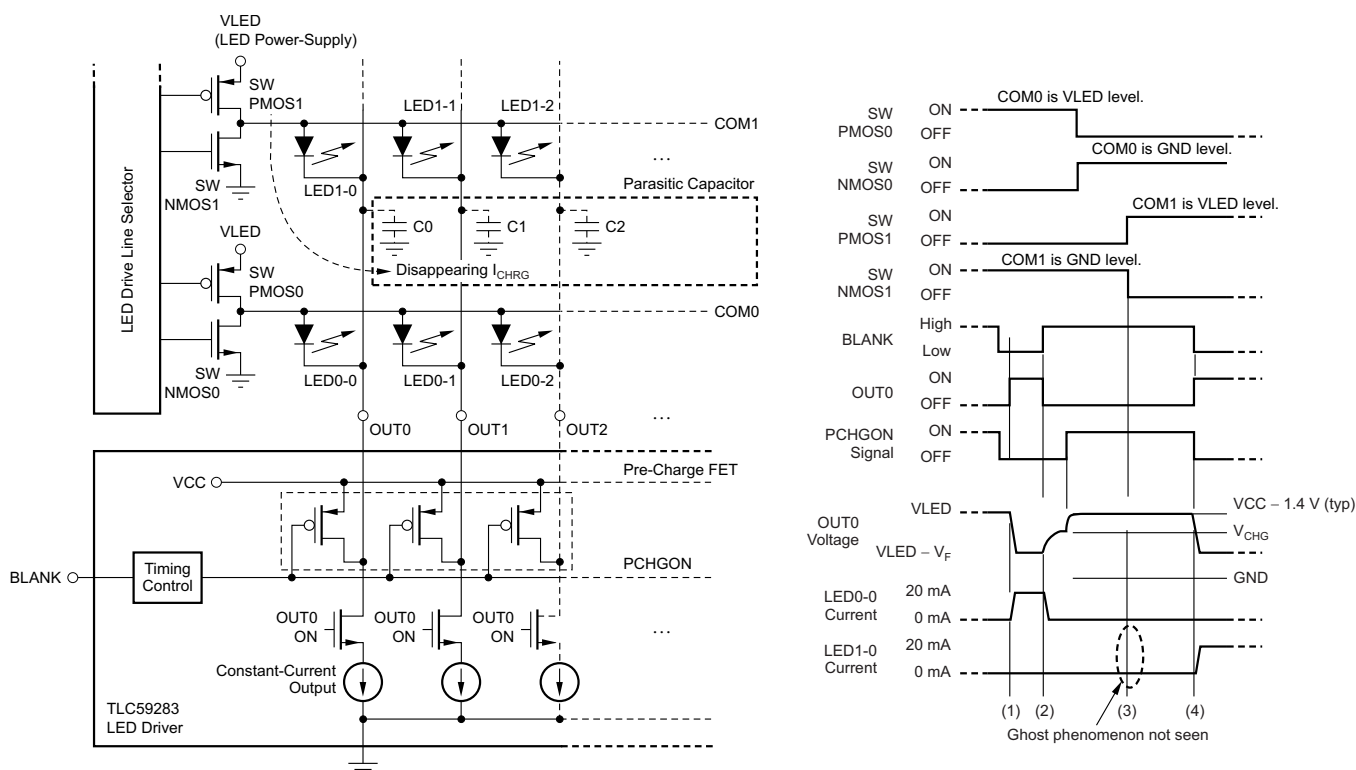

Figure 24. LED Ghost-Lighting Mechanism by Pre-Charge FET
The TLC59283 has an internal pre-charge FET to prevent ghosting, as shown in Figure 24. When a small delay after PWM control for a single common line completes, the FET pulls OUT_n up to V_{CC} . The charge current does not flow to C_0 through LED1-0 when SWMOS1 is turned on and the ghosting is eliminated at (3). However, depending on the LED anode voltage, the number of LEDs in series, the LED forward voltage, and the TLC59283 V_{CC} supply voltage, there may not be a great enough ghost-canceling effect.